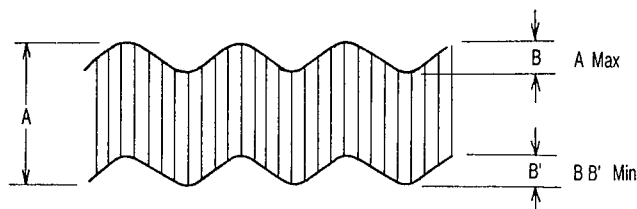

Fig. 1-7
- 5) Adjust the AZIMUTH SCREW (B) and TILT SCREW (C) so the audio output is maximum and flat (without any fluctuations). (See Fig. 1-7)